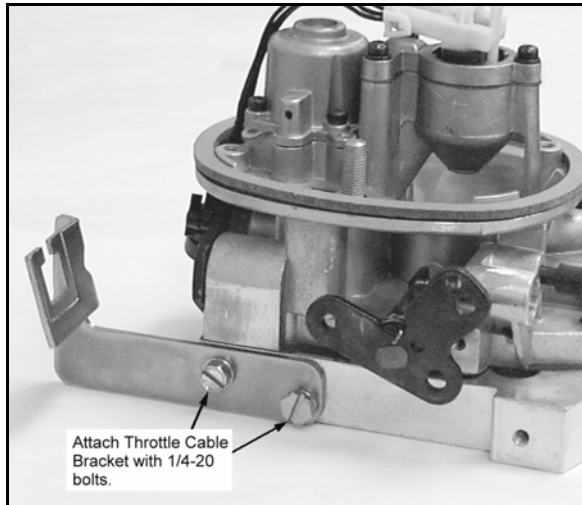

Figure 2
- 2 - Install the throttle cable bracket on the intake manifold adapter plate using two 1/4-20 bolts. See Figure 2.
- 3 - Install adapter plate on manifold. Secure with four (4) tapered head bolts with the bracket toward the inside of the engine facing the rocker cover. Torque to 8 ft. lbs. And then 15 ft. lbs in a criss cross pattern.
- 2 - Secure the throttle cable bracket with 1/4-20 bolts. See Figure 2.